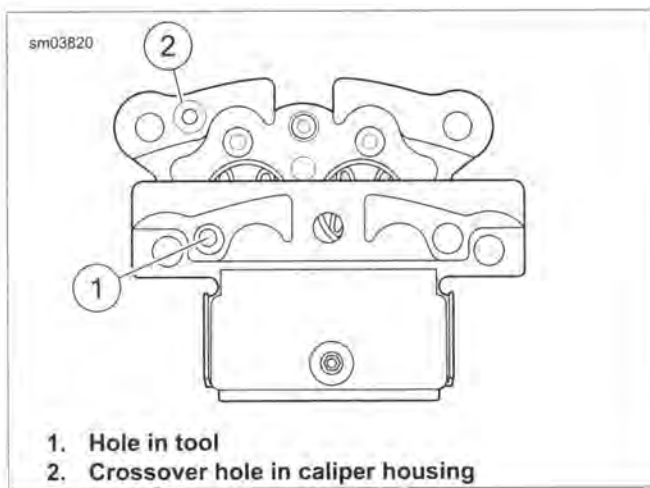
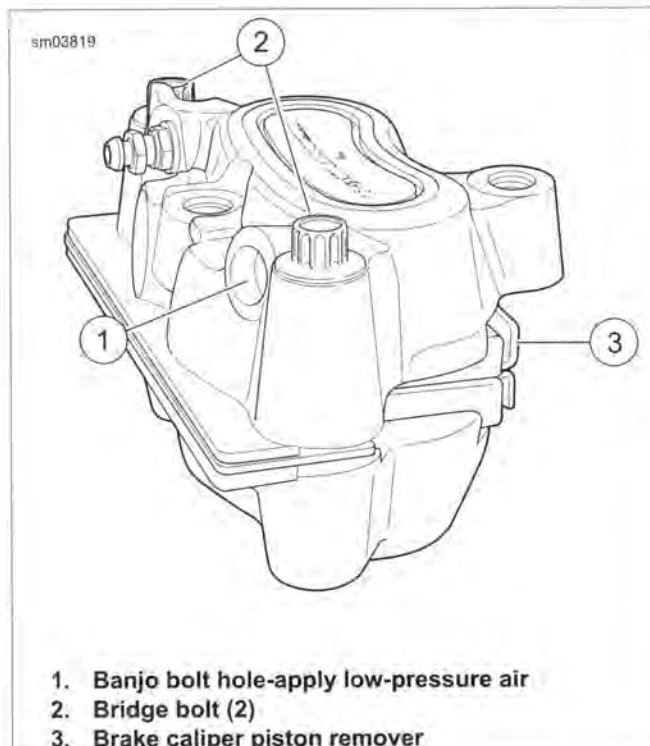

Figure 2-57. Installing Tool
Figure 2-58. Removing Pistons
3. See Figure 2-57 and Figure 2-58. Remove pistons.
- a. Place FRONT BRAKE CALIPER PISTON REMOVER (Part No. HD-48649) (3) between caliper housings.